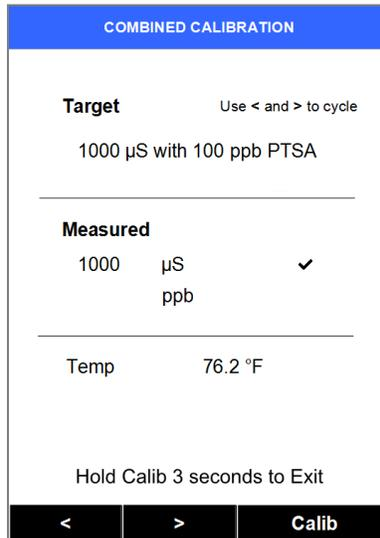

Figure 23
- 11) If Combined Calibration is successful, the Measured field will update to the Target conductivity value (1000 μ S), or very close. A small variance is not problematic. A checkmark will show. The screen will momentarily appear as in Figure 23.